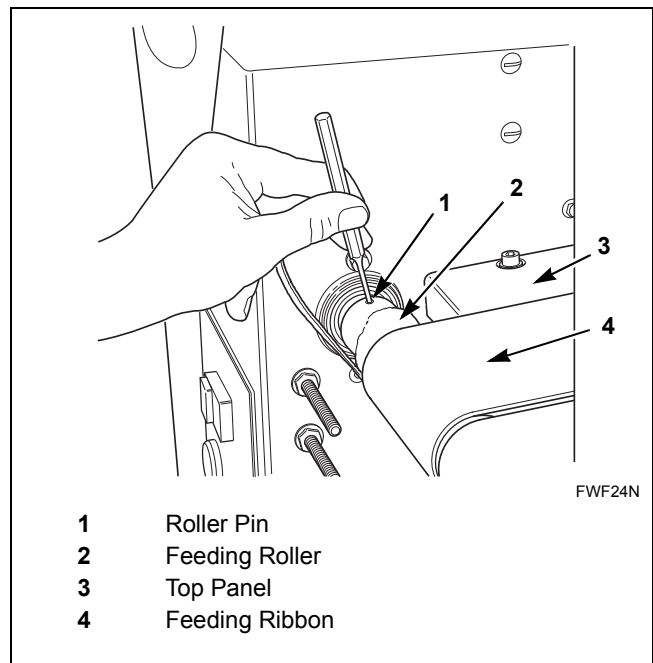

Figure 25
4. Using a center punch, completely knock out feeding roller pin. Refer to *Figure 25*.